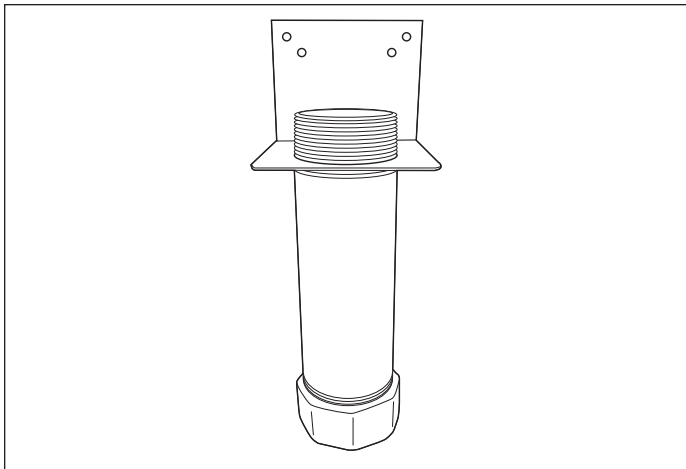

Figure 21-2
1. Tighten the bottom of the pipe cap using a pipe wrench. Place Fuel Sensor Housing mounting bracket over housing thread (Figure 21-2).